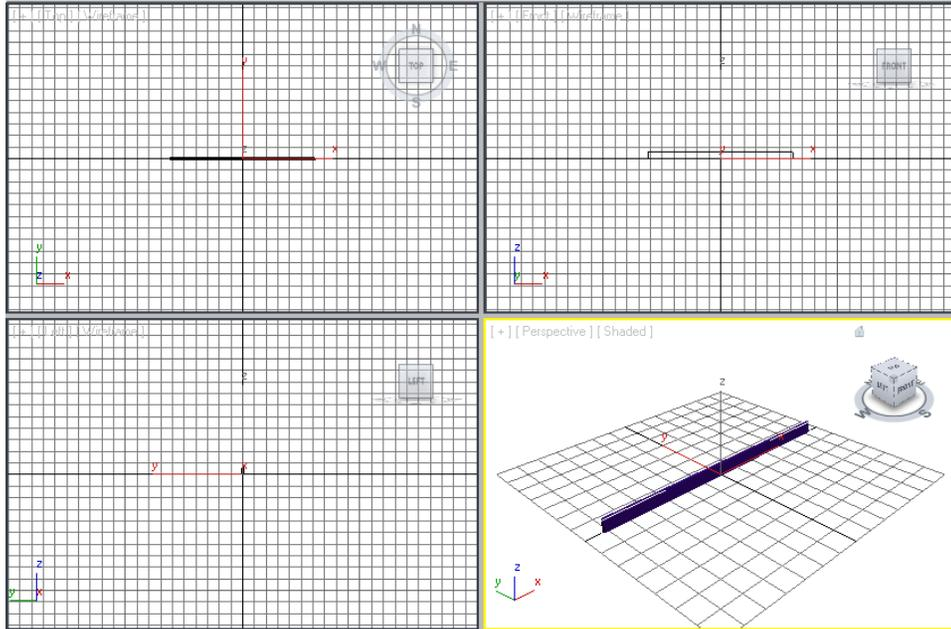

Figure 2-57 A box created
3. Choose the **Create** button from the **Keyboard Entry** rollout; a box is created in viewports, refer to Figure 2-57.